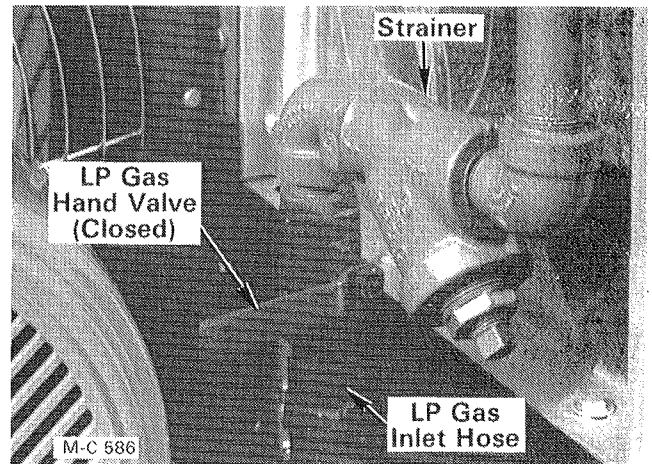

Figure 10 - LP Gas
- LP Gas** - Open the supply valve at the tank, the hand valve at the LP Gas inlet hose and open (lift up) the liquid line flip valve on each burner, see Figure 10 and 10A. The flip valve is open when the handle is 90° to the piping.